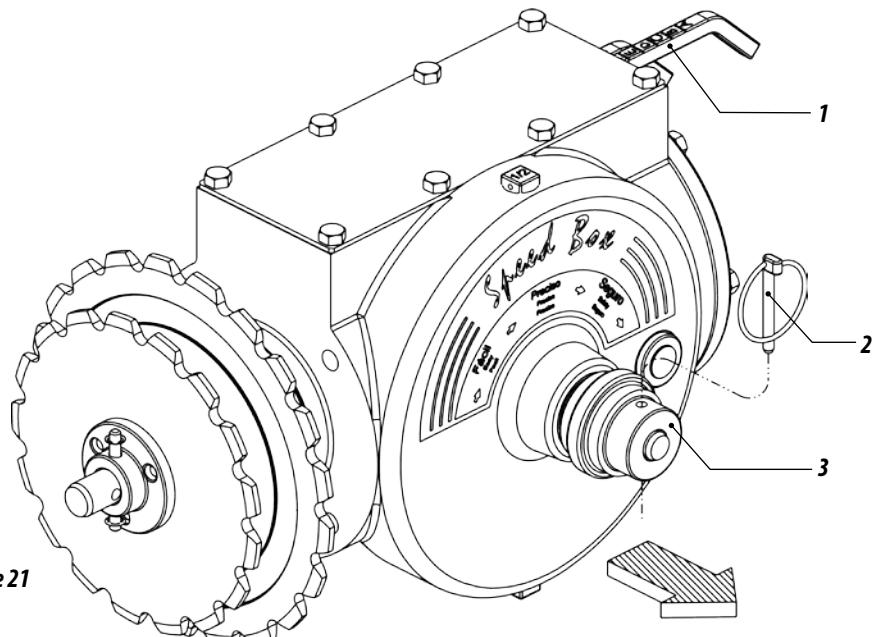

Figure 21
- 02 - For fertilizer adjusting, select the desired amount in the tables and check on the column of the same COMBINATION the corresponding number of the levers (1). Example: Combination A 6 in position of detail A of Figure 21 indicates that the lever with letters must be in position "A" and the lever with numbers should be set to "6".